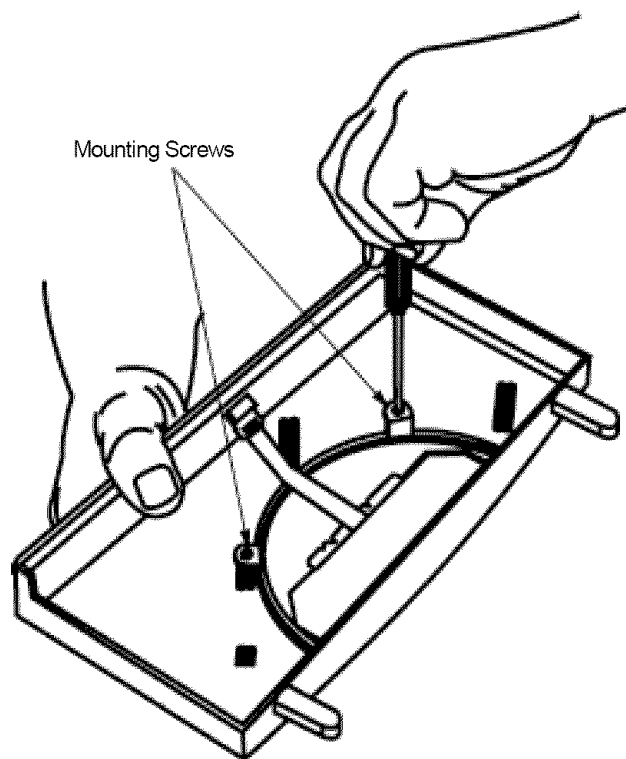

Figure 1
3. Remove the two touch fountain assembly mounting screws (figure 1).